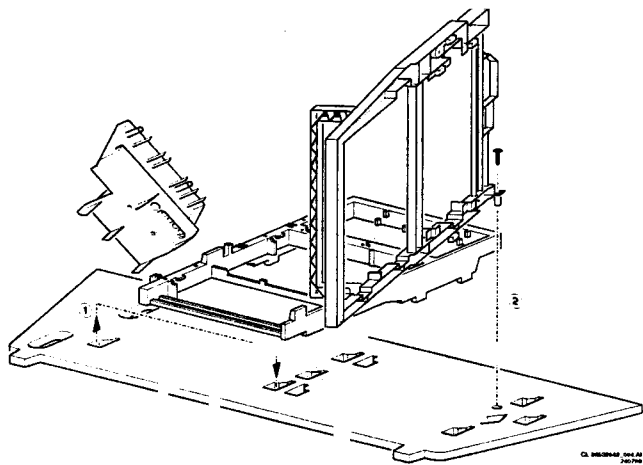

Figure 4-5
5. Turn the LSP 90 degrees anti clock wise and place the LSP in the hole of the bottom tray. If needed a screw can reinforce the stability of this position. (see figure 4.5) (See (2)).
6. The left front hook of the SSP panel can be fixed in a fixation-hole, that was used in previous service-position for the right front hook of the SSP. See described movement-action (1). (there is no right fixation hole)